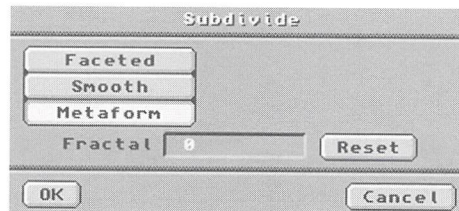

Figure 1: The Subdiv requester
- Press the (a) key on the keyboard to autosize the display. Then go to the Polygon menu and click on the Subdiv (Subdivide) button. You’ll see the requester shown in Figure 1.